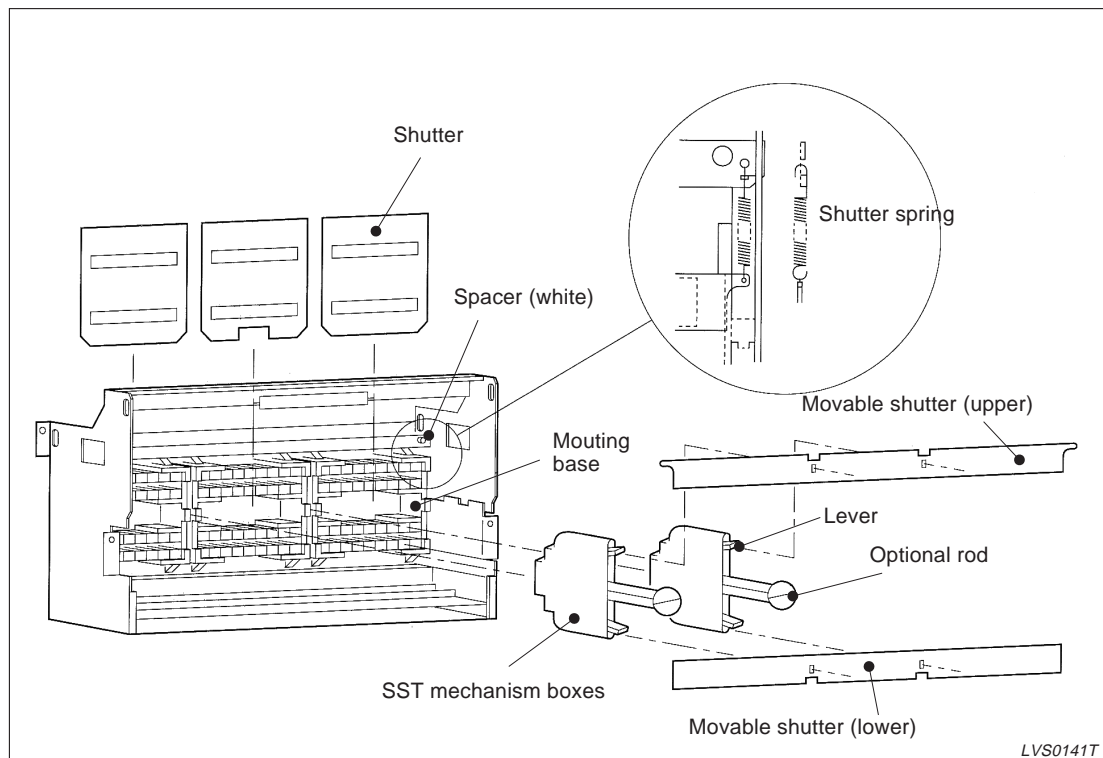

Fig. 4-37: Installation of the shutter spring
- ① Draw out the breaker from the cradle and remove it.
- ② In case of a 3 pole breaker, insert the SST mechanism boxes into the gap of the mounting bases of the cradle according to fig. 4-37.
- ③ In case of a 4 pole breaker, the SST mechanism boxes must be inserted into the gaps of the L phase and C phase, R phase and N phase.
- ④ Put the movable shutters on the lever of the safety shutters (SST) mechanism boxes.
- ⑤ Hook the shutter springs between the movable shutter and the upper angle of the drawout frame at each side (see circle in fig. 4-37).